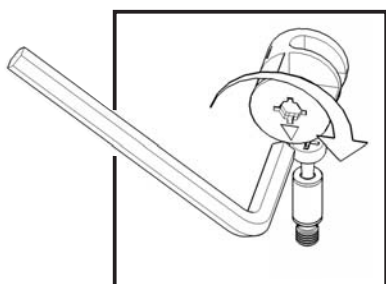
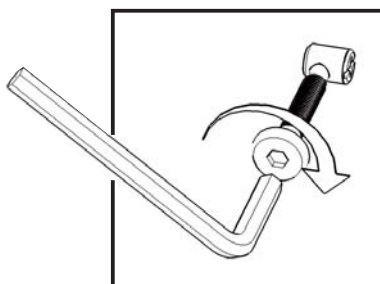

Figure 3
Figure 4
Attach unit from Step 2 to Top Unit (A) using Cam Locks, Head Cap Bolts (long) and Cross Dowels. (see Figure 3), (see Figure 4)